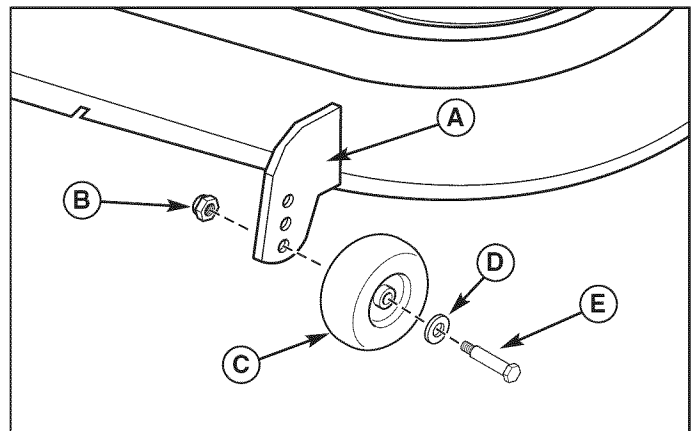

Figure 25. Fixed Bracket Gauge Wheel Adjustment
1. Remove the locknut (B, Figure 25), gauge wheel (C), washers (D), and shoulder bolt (E). Change position of gauge wheel to desired height.
2. Insert shoulder bolt (E) through washers (D) gauge wheel (C), and gauge wheel bracket (A). Secure with locknut (B). Repeat Steps 1 & 2 for all gauge wheels.